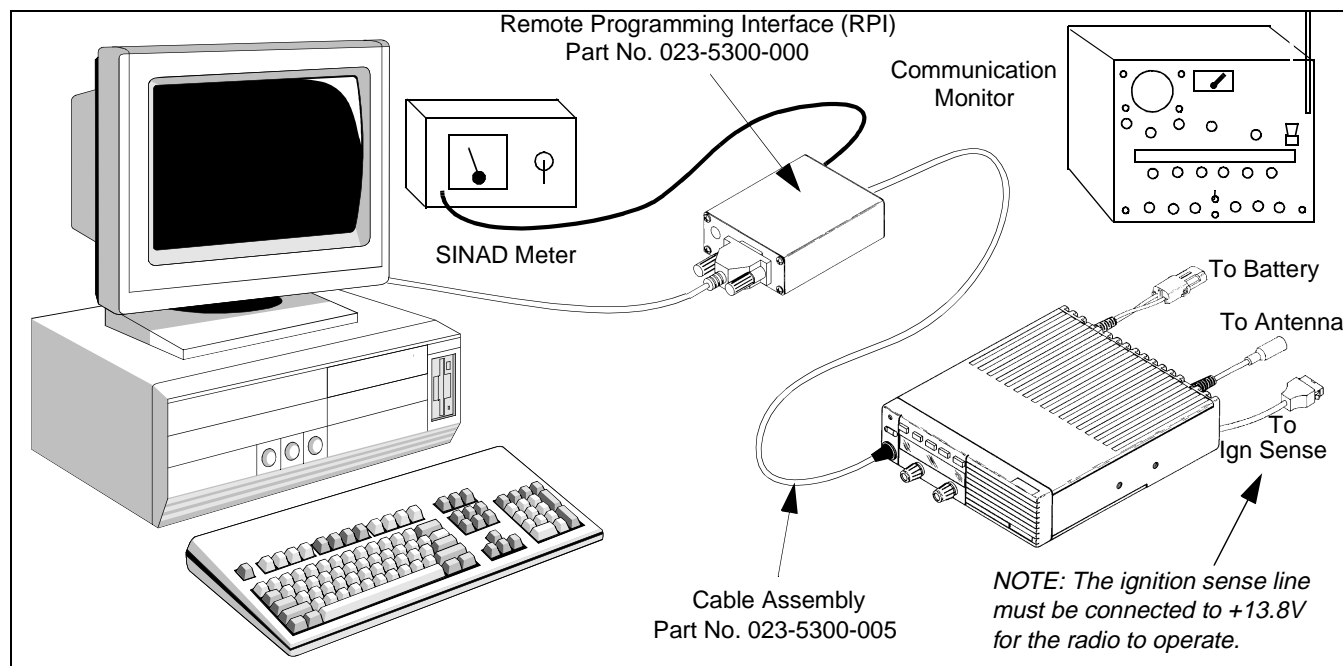

Figure 6-1 Alignment Setup
To perform transceiver alignment, a PC-compatible computer, Remote Programming Interface (RPI) Part No. 023-5300-000, and PCTune software are required (see Table 1-1). Earlier RPIs, such as Part No. 023-9800-000 or 023-9750-000, cannot be used. Refer to Section 4.1.3 for more RPI information. The programming setup is shown in Figure 6-1.
All adjustments are set digitally using the computer. Therefore, there is no need to disassemble the transceiver to access adjustment points. In addition, audio test signals are generated internally, so an audio generator is not required. The required test equipment is shown in Figure 6-1.
2. Connect the RPI to the microphone jack of the transceiver using programming cable, Part No. 023-5300-005 (see Figure 6-1).